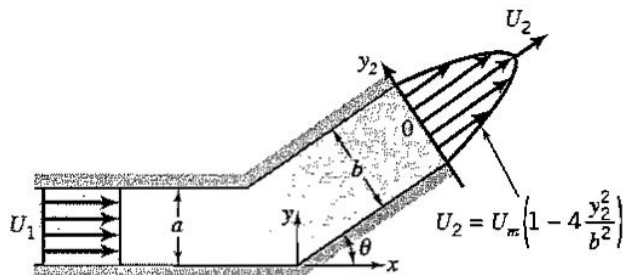

Figure P3.28
3.28 For the rectangular duct of width W shown in Figure P3.28, the flow is steady and the density is constant. Find U_m in terms of U_1 , a and b , and find the y -component of the momentum flux leaving the duct.